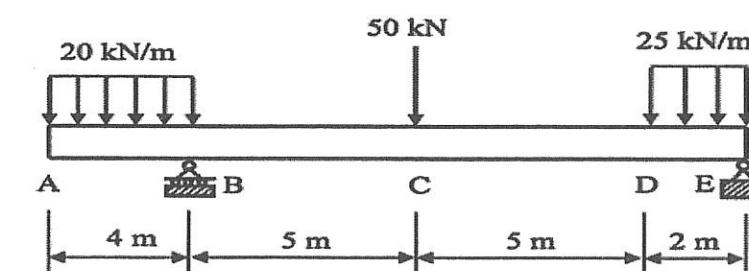

Figure 3c/ Rajah 3c
- (c) Figure 3c shows a 16m long overhang beam subjected to a 20kN/m and 25kN/m uniformly distributed load and 50kN point load.